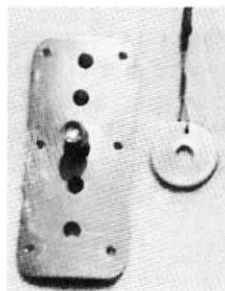

Figure 7-21
3. **Adjustable spinner:** The same as the nonadjustable gimballed spinner except it is mounted on a shaft that is adjustable on a metal plate mounted to the side of the harness (Figure 7-21).